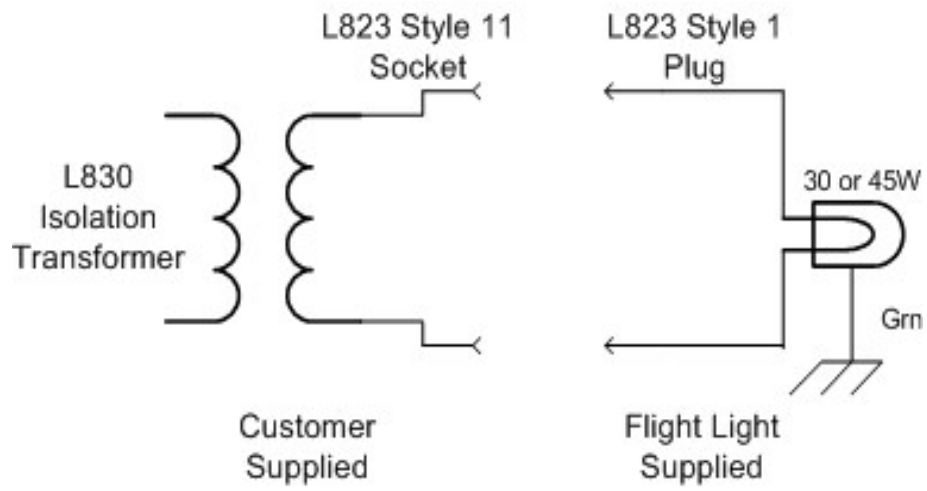

Figure 2 – Airfield Electrical Connection
4. Connect the 30/45 watts isolation transformer per Figure 2.